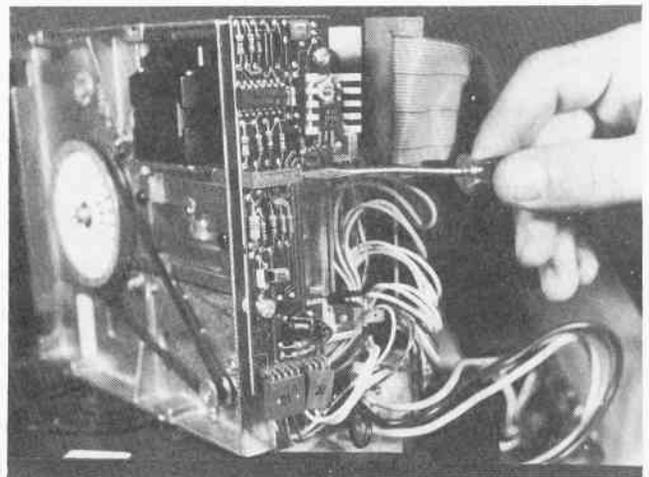

Fig. 4-7. The screwdriver is inserted in the speed adjustment potentiometer.
1. Locate the speed adjustment control potentiometer (R4A/R23) in the back middle of the drive, as shown in Fig. 4-7.